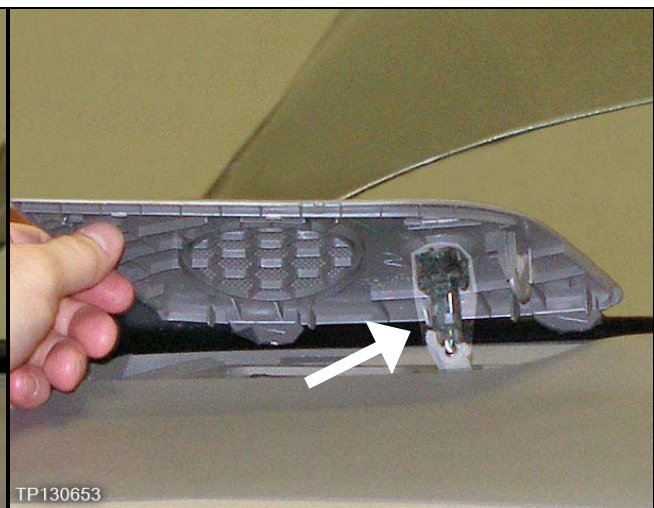

Figure 10
- 11. Disconnect the sunload sensor, and then remove the LH instrument panel tweeter grille (see Figure 10).